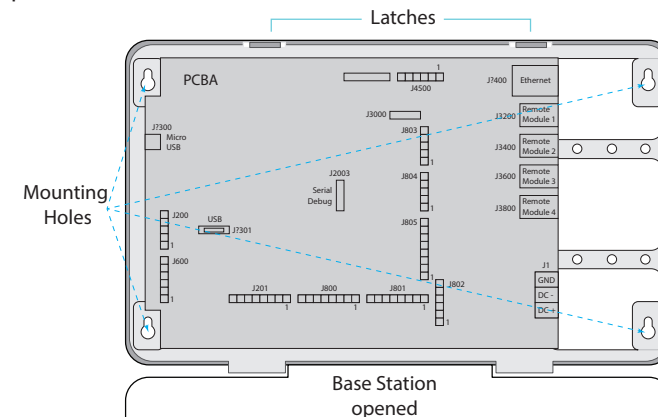

Fig. 1.2
- 3 If you are replacing an existing HME product such as EOS®, mounting the base station close to the location of the base station you are replacing may enable you to use the existing wires/cables without having to route new wires. However, verify the wires/cables are in good condition before using them. Open the base station and mark the mounting location on the wall through the four mounting holes at each corner inside the base station (see Fig. 1.2). Mount the base station using the hardware provided.